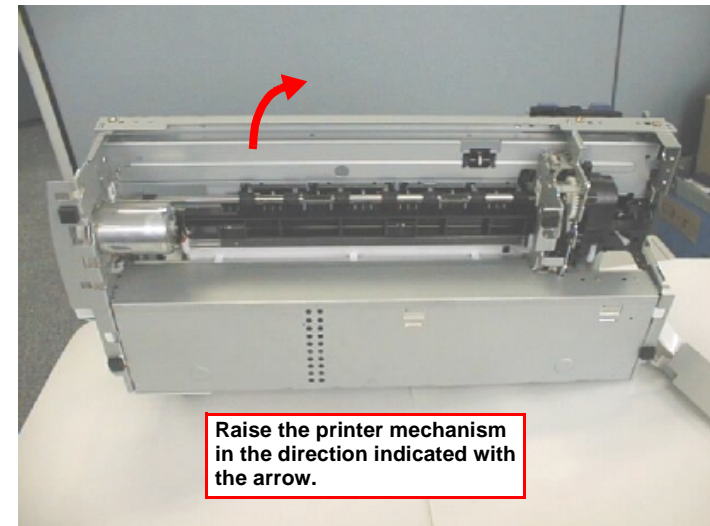

Figure 4-13. Raising the Printer Mechanism
- 5) Raise the Printer Mechanism toward ASF side so that you can see the bottom of the Printer Mechanism. Refer to Figure 4-13.